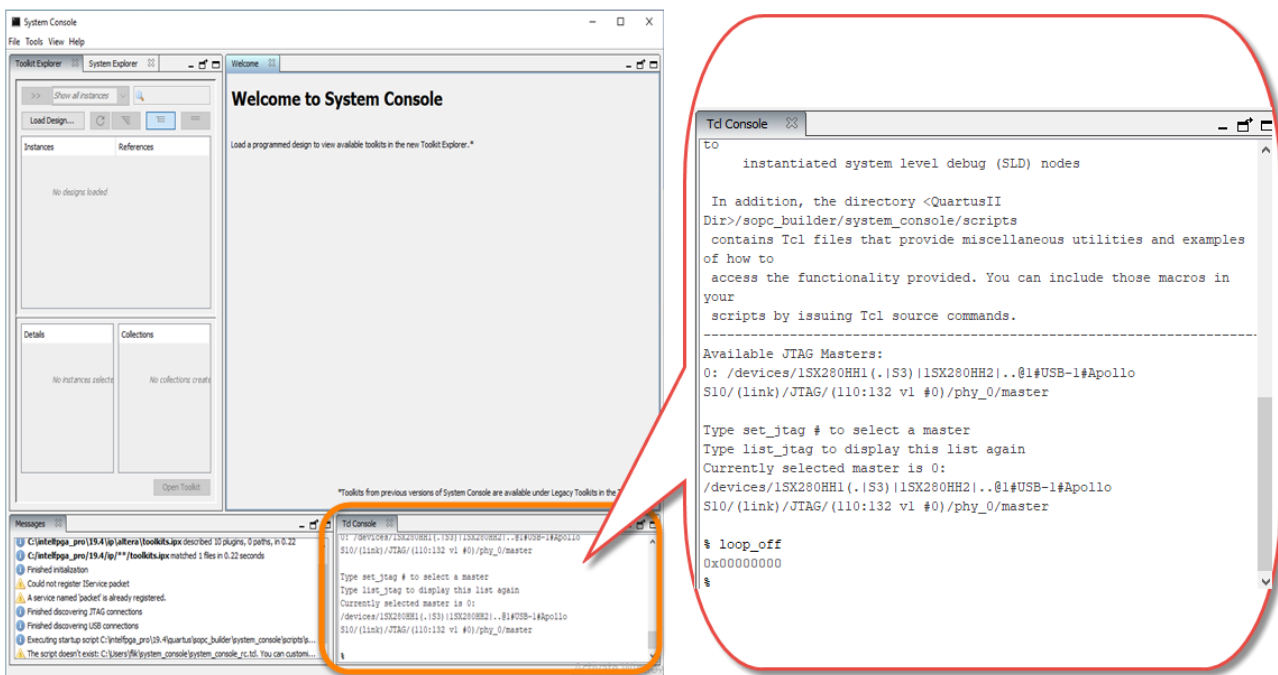

Figure 6-6 Enter command for test
6. If you have a QSFP28 loopback fixture installed, type “**loop_off**” to turns off internal serial loopback. Otherwise, type “**loop_on**” to turn on internal serial loopback(See Figure 6-6).